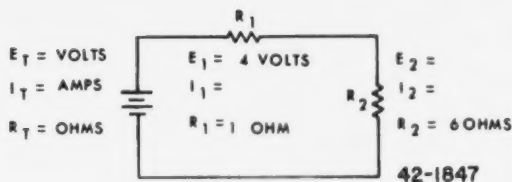

Figure 1-20. Objective 209, exercise 1.
1. Using figure 1-20, figure the unknown voltage, current, and resistance values.